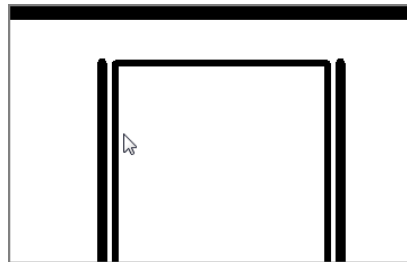

FIGURE 12.61: Offsetting the heavy lines 3/8" (9mm) to the right and the left
7. Offset the left and the right lines, as shown in Figure 12.61.